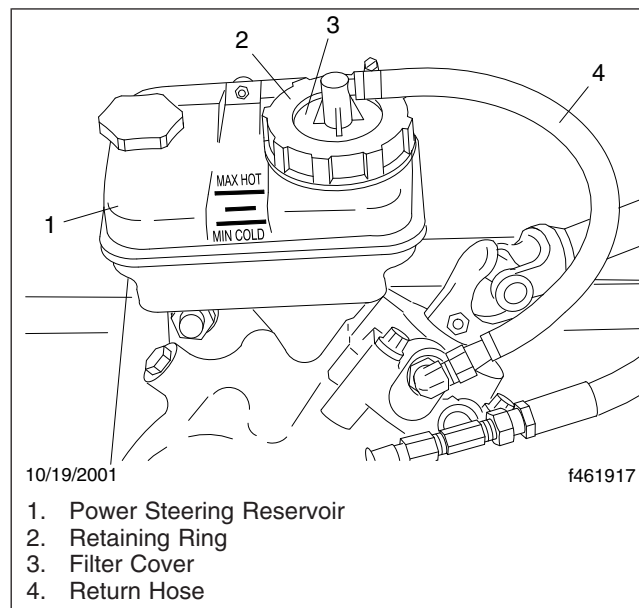

Fig. 1, Power Steering Reservoir
3. Remove the retaining ring from the reservoir. See **Fig. 1**.
7. Fill the reservoir with an approved power steering fluid to the line between the MIN COLD and MAX HOT lines. See **Fig. 1**. See **Table 1** for approved power steering fluids.